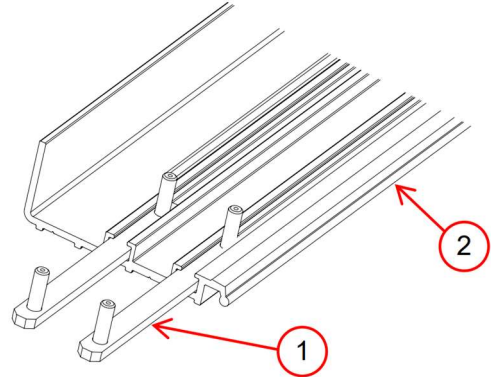

Figure 16: Sliders (1) in the two tracks on the base (2).
2. Each part attaches to the base with one or two “sliders” (Figure 16), which fit into the tracks on the base. **Remove the nuts from all sliders.**
*Note: If the top bracket does not fit in this position (Figure 16), contact your MultiDrive supplier about obtaining a different style bracket that fits onto the right edge of the door.*